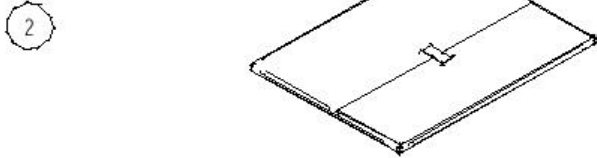

Fig.2
- (2). LDPE bag opening(with module inside) fix with adhesive tape as Fig.2.